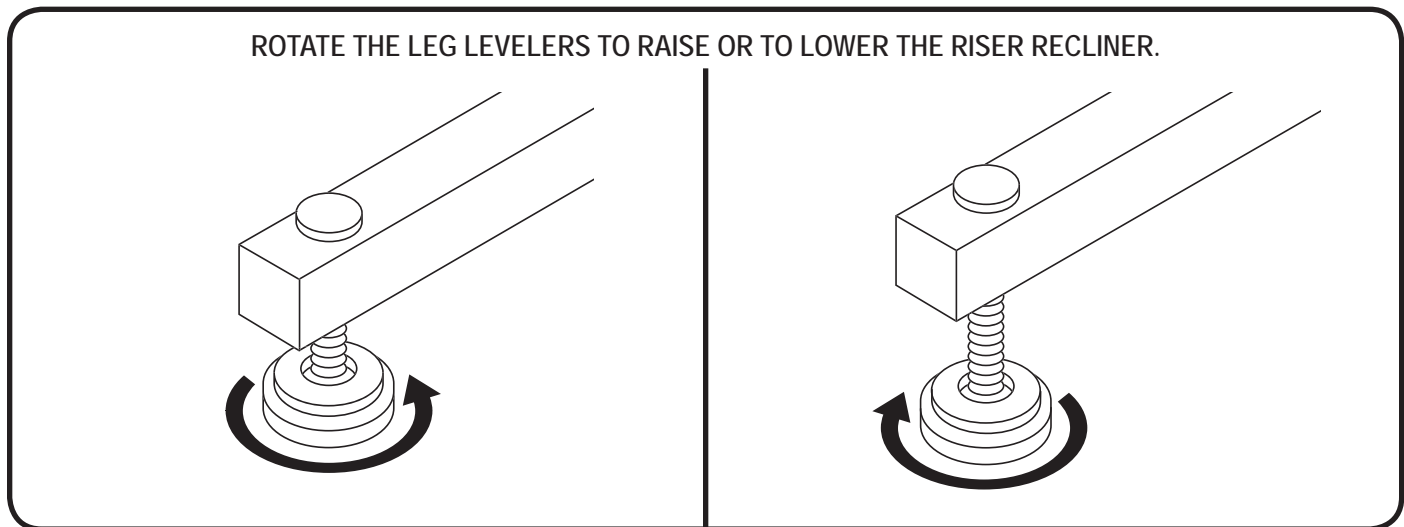

Figure 3.2 Leg Levelers
Leg Levelers: Manually rotate up or down in order to stabilise the recliner before use (**Fig. 3.2**).
2. Adjust the leg levelers to stabilise the riser recliner (**Fig. 3.2**).